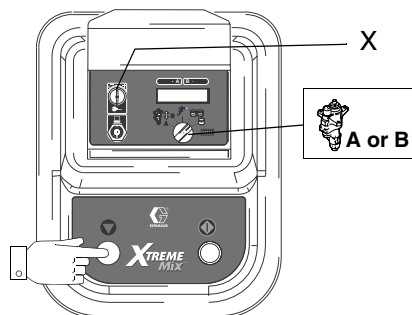

FIG. 12
3. Turn knob to pump A . FIG. 12. Hold down Stop  button about 5 seconds. The default calibration (number between 85000 - 95000) displays.
4. Use key (X) to change default to calibration value noted previously.
7. Use key (X) to change default to calibration value noted previously.